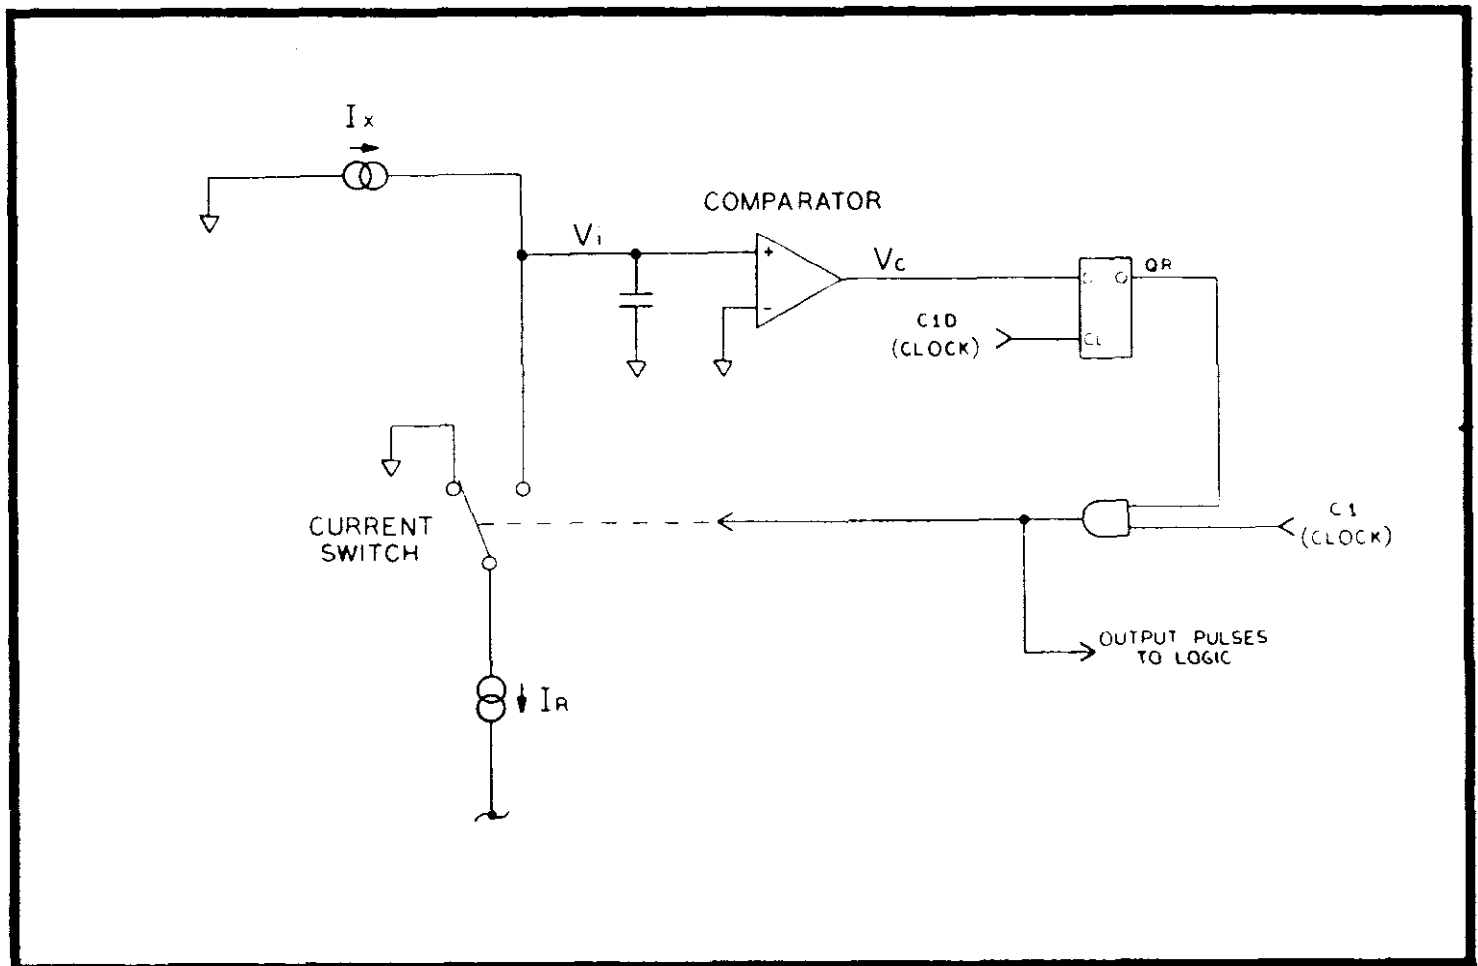
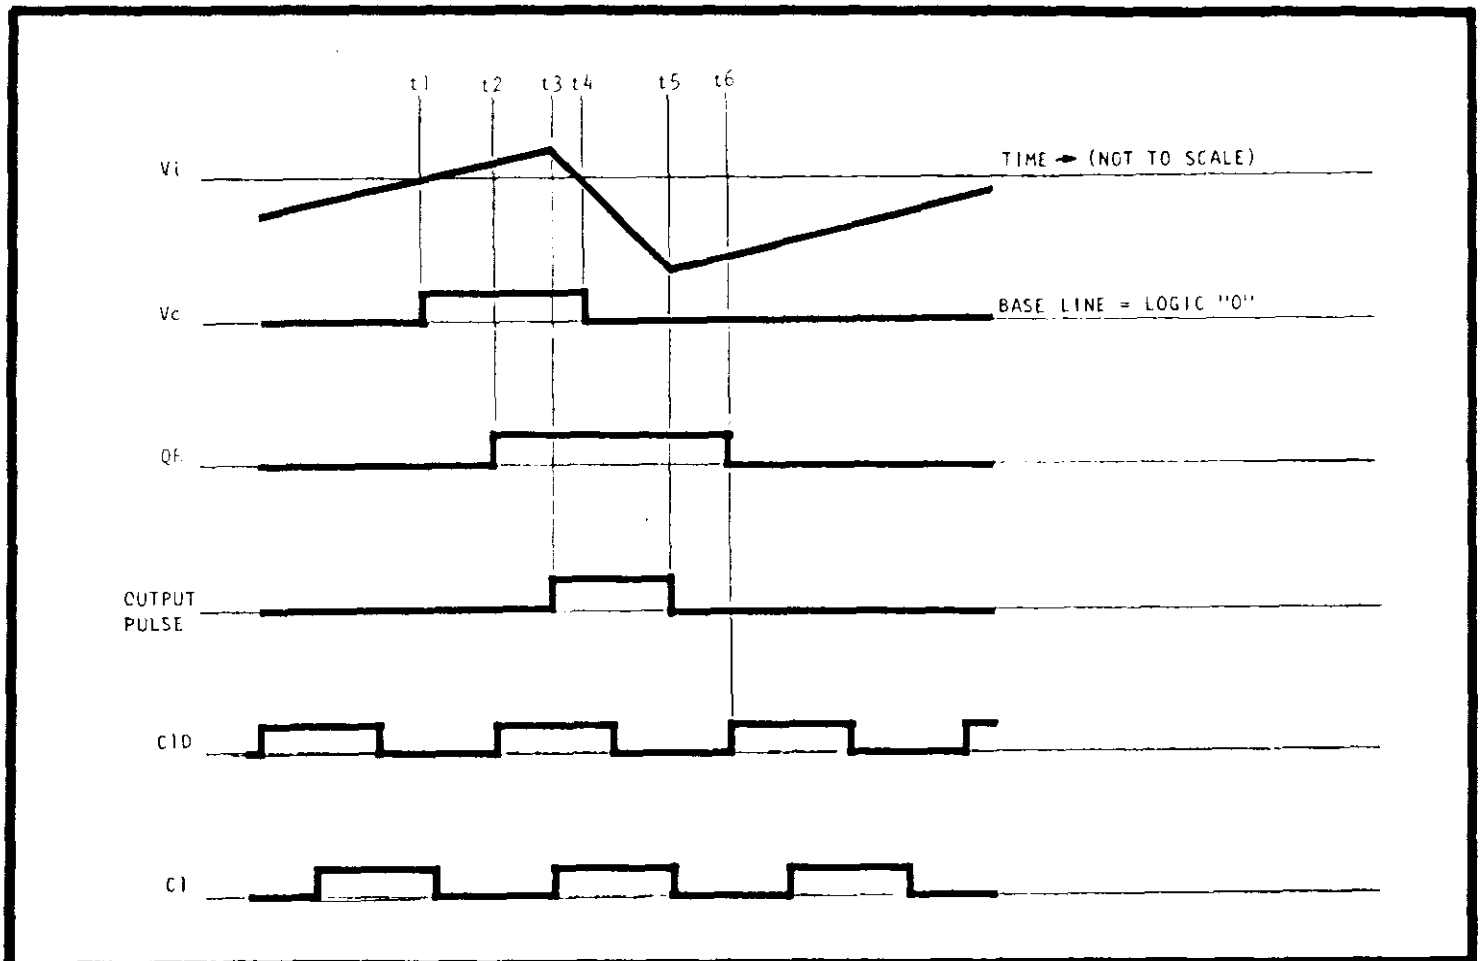
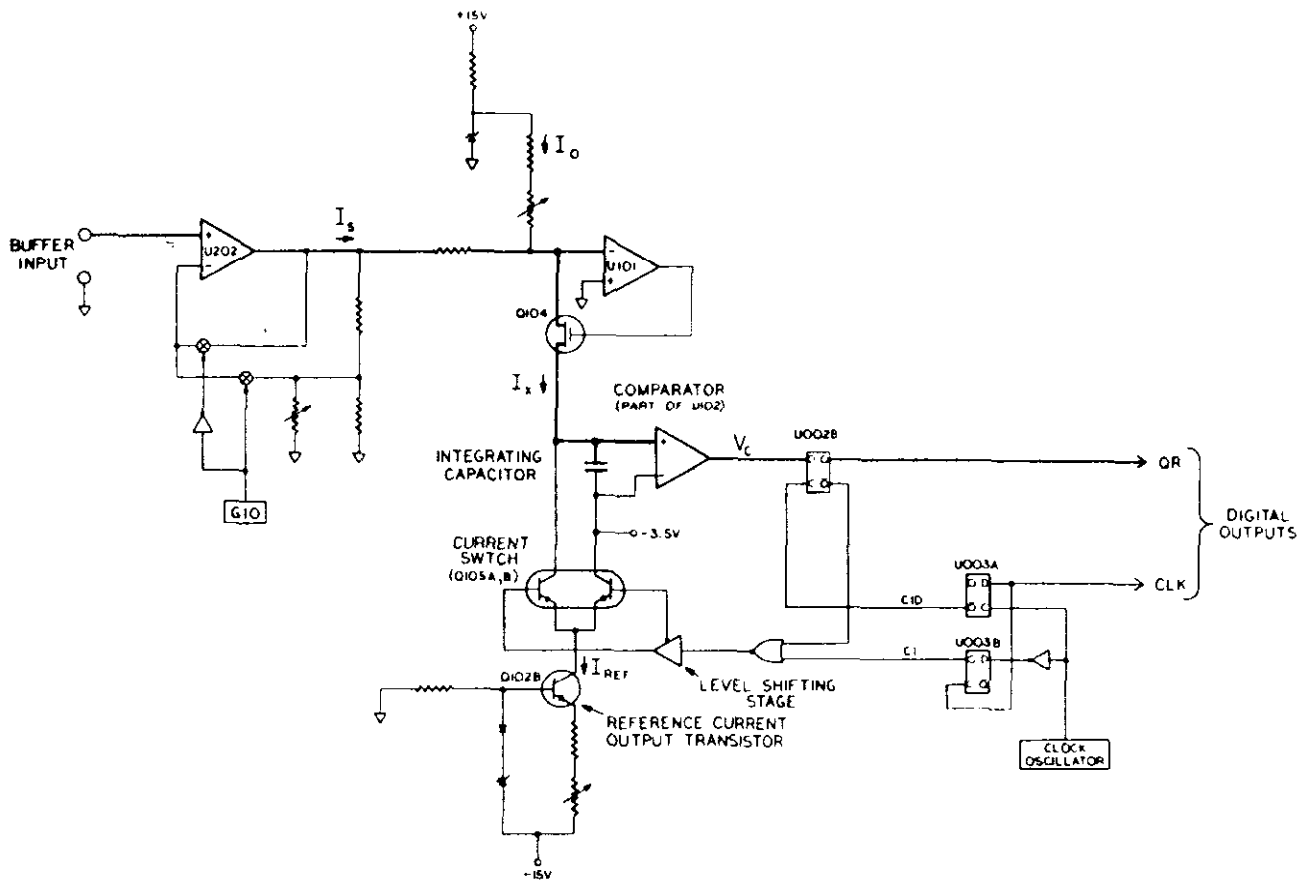
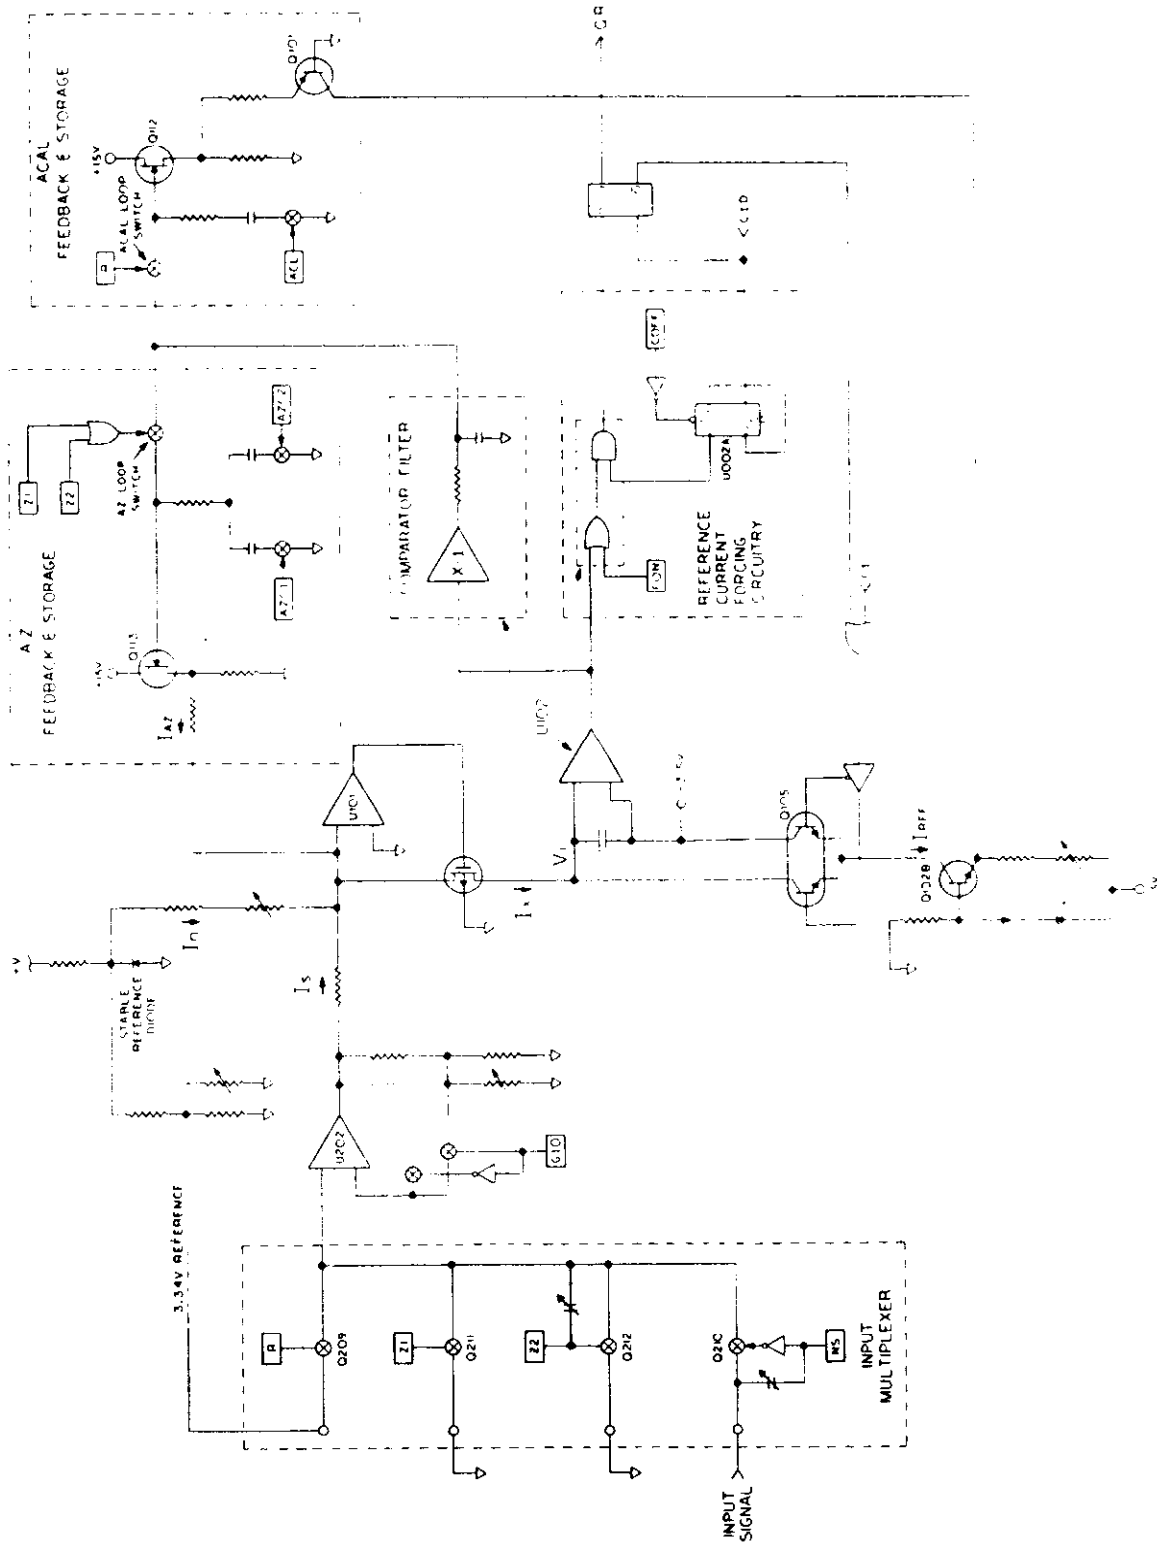

FIGURE 28. Basic Charge-Balance Converter.
FIGURE 29. Operating Waveforms of A/D Converter.
FIGURE 30. Simplified Schematic of V/F Converter.
FIGURE 31. Simplified Schematic of Complete A/D Converter.
1. The greatly simplified circuit shown in Figure 28 illustrates the basic principles of the charge-balance V/F converter. Its operating waveforms are shown in Figure 29. Assume the integrating capacitor voltage, V_i , to be initially negative. As the input signal current I_x is integrated by the capacitor, V_i rises and eventually becomes more positive than the threshold of the comparator (time t_1 in Figure 29.). The comparator output voltage V_c , which is a logical variable, then rises to a logic 'one'. At the next positive-going edge of the clock CID (time t_2 in Figure 29), this 'one' is latched by the flip flop and appears as the latched output QR. A quarter of a clock period after that event, (at t_3), the out-of-phase clock, C1, goes high and enables the output of the AND gate, thereby turning on the current switch. For the next half clock period, from t_3 to t_5 , the reference current I_r is forced to flow out of the integrating capacitor, discharging it and bringing V_i to a negative value. Sometime (t_4) during this reference current pulse, V_i crosses the comparator threshold in a negative direction and V_c goes to a logical 'zero'. At the next positive-going edge of clock CID, (t_6), the comparator voltage V_c is still a zero and therefore the flip flop output also becomes a zero. The reference current consequently is not turned on during that clock period, and in fact stays off until the next time the integrator voltage once again rises above the comparator threshold.
4. Figure 30 is a simplified schematic diagram of the circuitry actually employed to perform the V/F conversion. In addition to some added details of the circuitry already discussed, Figure 30 shows three major circuit elements not previously mentioned.
d) The remaining circuitry in Figure 30 is functionally equivalent (with some added details) to the basic charge-balance loop shown in Figure 28. The digital output signals QR and CLK are used by the digital subsystem, in effect, to reconstitute the pulse train discussed in connection with Figure 28.
1. The charge balance system shown in Figure 30. is inherently highly linear, but both its zero and full-scale calibration (scale factor) are susceptible to drift with time and temperature, due to a variety of effects. Through the use of a pair of related circuit functions, referred to as Auto-Zero and Auto-Calibrate, these intrinsic errors can be cancelled, resulting in a system whose scale factor is essentially as stable as the voltage of a reference zener diode and whose zero stability is limited principally by thermo-electric offsets. The techniques used to achieve this performance are described in this section.
or through the transconductance amplifier (1) does not exactly match this forced reference current; the difference exactly equals the correction current required to cancel the offset errors. Thus the integrator voltage, V_i , exhibits a charge balance sawtooth waveform like that shown in Figure 29., superimposed on a much slower ramp whose slope is proportional to this difference current. The auto-zero feedback system adjusts a correction current which flows into the summing junction of amplifier U101 so that the slope of the ramp is equal to zero. In this way, all zero errors are precisely cancelled.
5. The circuitry which performs the operations described above is shown in Figure 31, together with most of the charge balance system redrawn from Figure 30. The added circuitry is grouped in five major blocks:
a) The input multiplexer supplies the necessary "known" voltages to the input of the buffer amplifier at appropriate times, and connects the buffer amplifier to the signal source when that signal is to be measured. The multiplexer consists of JFET switches controlled by signals from the LSI chip. (the two adjustable capacitors shown in Figure 31. are used primarily to neutralize the JFET switching charge in order to minimize the A/D input current.)
3. The error-correction segment of the conversion cycle is further divided into three 40-msec. phases. During the first two of these phases, the buffer amplifier gain is held constant at either 1X or 10X (depending on DMM range and function). During the AZ1 phase, the input multiplexer supplies the buffer with a zero-reference voltage, and the Auto-Zero feedback loop is closed. The value of I_{AZ} required to correct any system zero-errors is established, and the closure of the AZC1 switch (see Figure 31) causes the source-follower gate voltage which produces this current to be stored on the corresponding Auto-Zero storage capacitor.
5. Buffer gain during the AZ2 phase is always the same as it is during the signal-measurement phase; it may differ from its value during AZ1 and ACAL. Because of the (possibly) changed buffer gain, the effective system offsets may have changed so the second Auto-Zero operation is required to prepare the V/F converter for an error-corrected signal measurement. This new value of the Auto-Zero correction voltage is stored on the capacitor controlled by the AZC2 switch (Figure 31.).